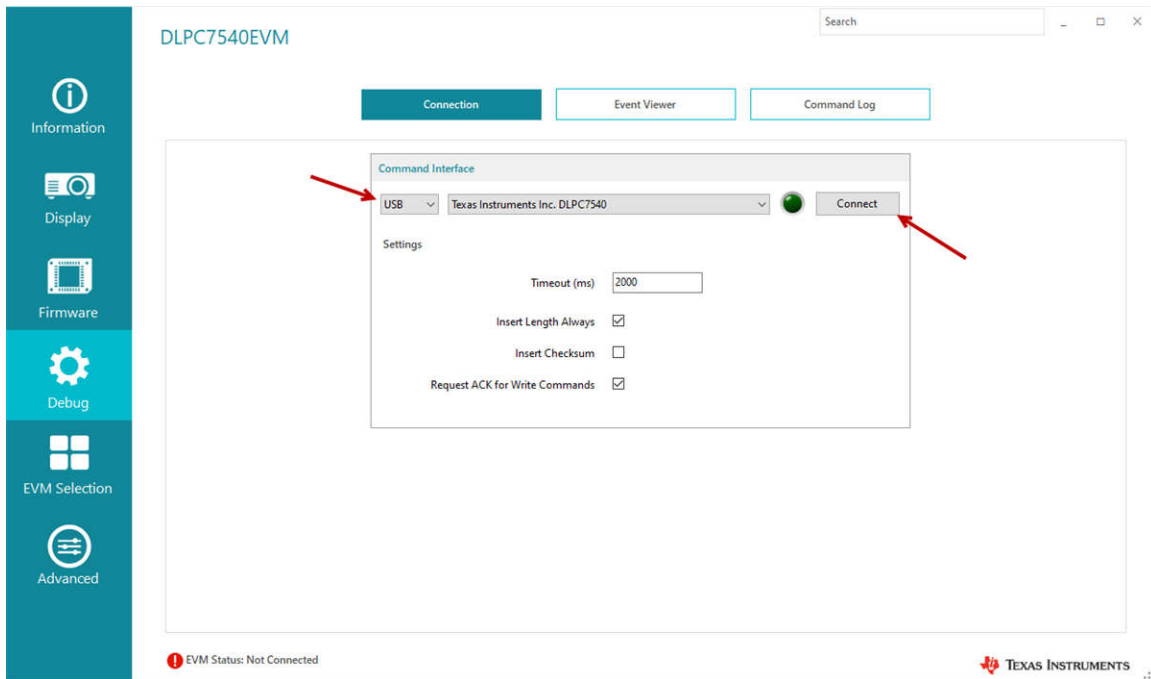

Figure 3-3. Command Interface Settings
- b. For USB, select the USB interface and click *Connect*; see Figure 3-3.